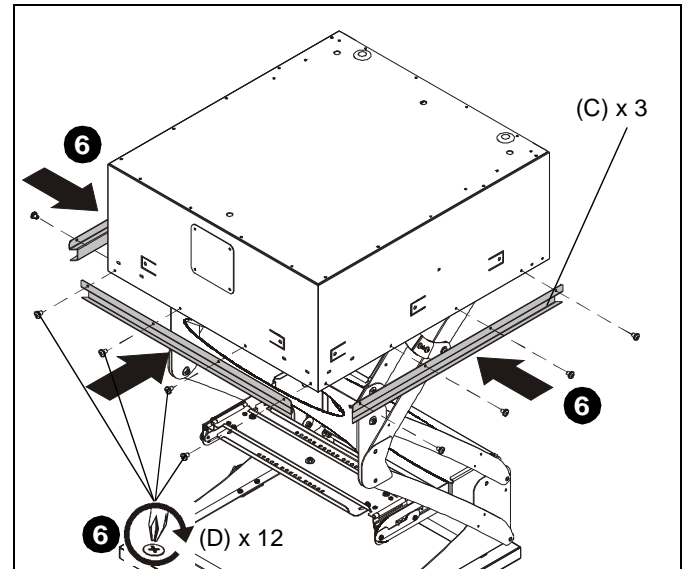

Figure 3
6. Replace trim on sides and front with trim pieces (C), and secure in place with twelve 6-20 x 3/16" Phillips tapping screws (D). (See Figure 3)